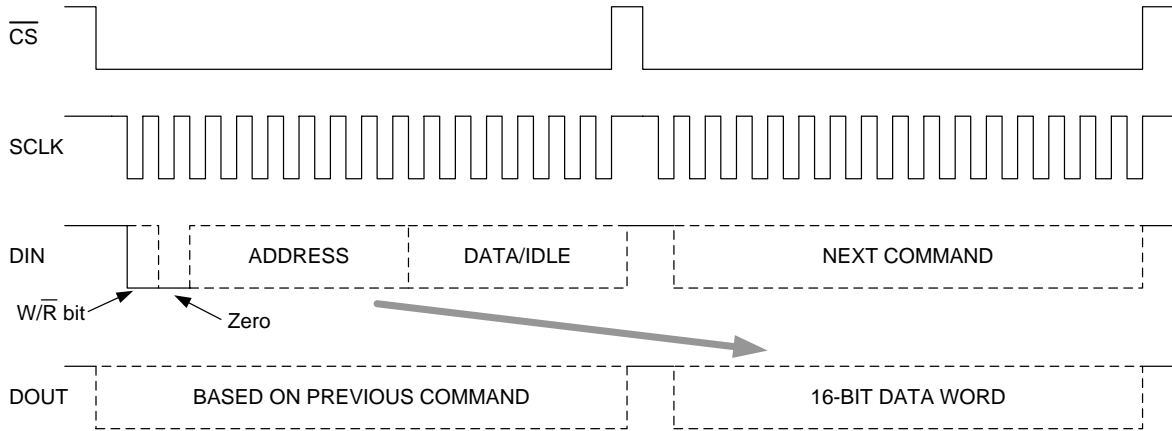

Figure 5. Register Read/Write Command Sequence
Reading the contents of any accessible register in the ADIS16250 requires two data transfer cycles: one for transferring the register’s address and one for reading the two bytes from the register. Figure 5 displays the sequence of a read cycle on the ADIS16250 SPI port and Table 8 contains the bit definitions for DIN and DOUT. The DIN sequence starts with two zeros, followed by the registers address, A5 to A0. For example, the GYRO_OUT register address is 0x04, which results in an A5 to A0 bit sequence of 000100. The last 8 bits in the DIN sequence, B7 to B0, are ignored by the ADIS16250 during read cycles. During the next data transfer cycle, the 16-bit contents of the register are read out on the DOUT pin, starting with two status bits, new data (ND) and error/alarm (EA). Then, the data associated with the GYRO_OUT register are transferred out, starting with the MSB.
The angular rate data and angle out data registers are 14 bits in length. The angular rate data is formatted as a two’s complement number and the angle output is formatted as binary data. The rest of the data output registers are 12 bits in length, leaving D12 and D13 as “don’t care” bits. The output format for each of these registers, along with their addresses, can be found in Table 6. Each output data register has two different addresses. The first address is for the upper byte, which contains the most significant bits (D8 to D13), ND, and EA data. The second address is for the lower byte, which contains the eight least significant bits (D0 to D7). Reading either of these addresses results in all 16 bits being clocked out on the DOUT line as defined in Figure 5 during the next SPI cycle.
The read and write commands are identified through the most significant bit (MSB), B15, of the received data. Write a 1 to B15 to indicate a write command. Write a 0 to B15 to indicate a read command. Bit B13 through Bit B8 contain the address of the control register that is being accessed. The remaining 8 bits of the write command contain the data that is being written into the part, whereas the remaining 8 bits of the read command contain "don't care" levels. Given that the data within the write command is 8 bits in length, the 8-bit data format is the default byte size. A write command operates on a single chip select cycle as shown in Figure 5. The read command operates on a 2-chip select cycle basis as seen in Figure 5. All 64 bytes of register space is accessed using the 6-bit address. Data written into the device is performed on a byte-wise basis with the address of each byte being explicitly called out in the write command. Conversely, data being read from the device consists of two, back-to-back, 8-bit variables being sent out with the first byte out corresponding to the upper address (odd number address) and the second byte relating to the next lower address space (even number address). For example, a data read of address 0x03 results in the data from address 0x03 being fed out followed by data from address 0x02. Likewise, a data read of address 0x02 results in the same data stream being output from the device